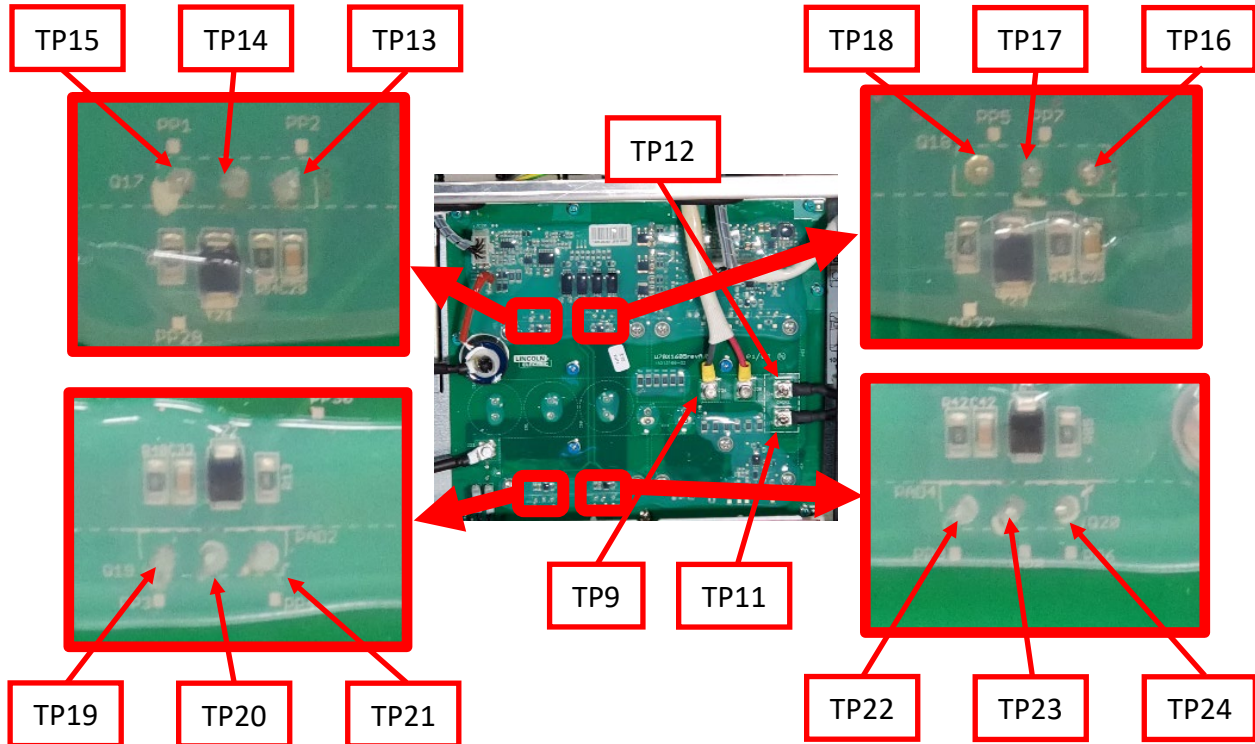

Figure F.3
A.6. Perform the static measurements in Test Table 2, refer to Figure F.3 for test point locations.